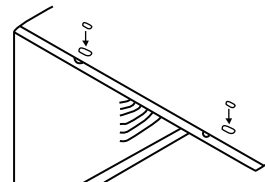

Fig. 6
9. Add two foam inserts to holes in top of cabinet where shipping screws were removed from. (See Fig. 6.)
1. Attach foam gasket to top angle above holes. (See Fig. 6.)
4. Secure bottom rail to wooden frame with two large wood screws 1" (2.5 cm) long using the two holes in the bottom of the channel resting on frame. (See Fig. 6.)